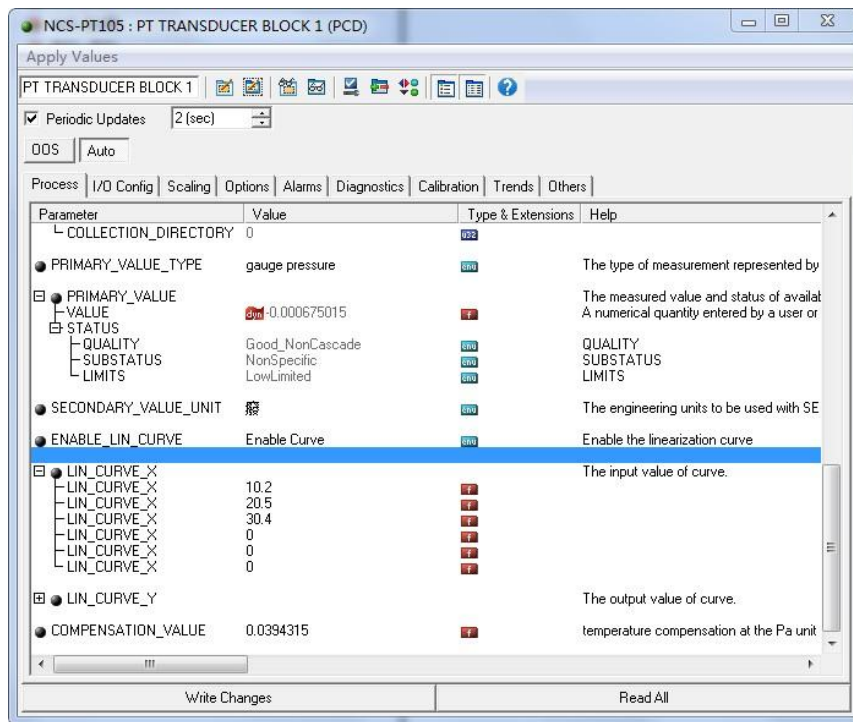

Figure 6.5 Configuration of the parameter LIN\_CURVE\_X
- 2) Enter the standard pressure through the ressor and open the corresponding transformation block on the configuration software, read the value of parameter PRIMARY\_VALUE and write the value to the LIN\_CURVE\_X array. For example, write the 10.2,20.5,30.4 read in the LIN\_CURVE\_X array, as shown in Figure 6.5.Finish this calibration work.